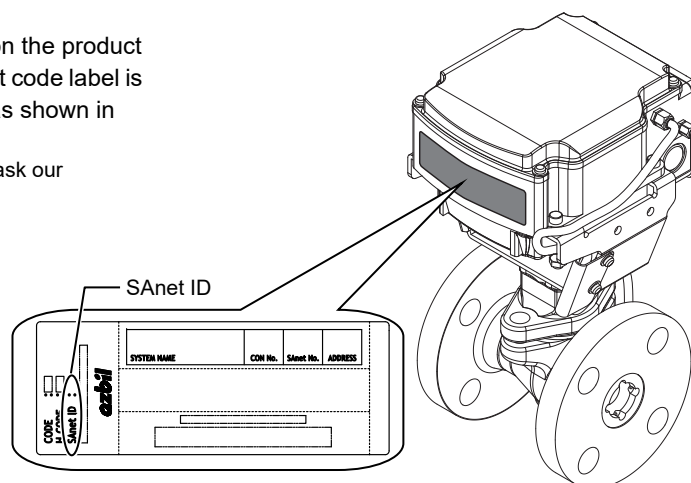

Figure 19. SAnet ID on the product code label
2. With Data Setter or PC-MMI, enter the SAnet ID (on the product code label) and address number to set. The product code label is attached on the rear side surface of the actuator, as shown in Fig. 19.